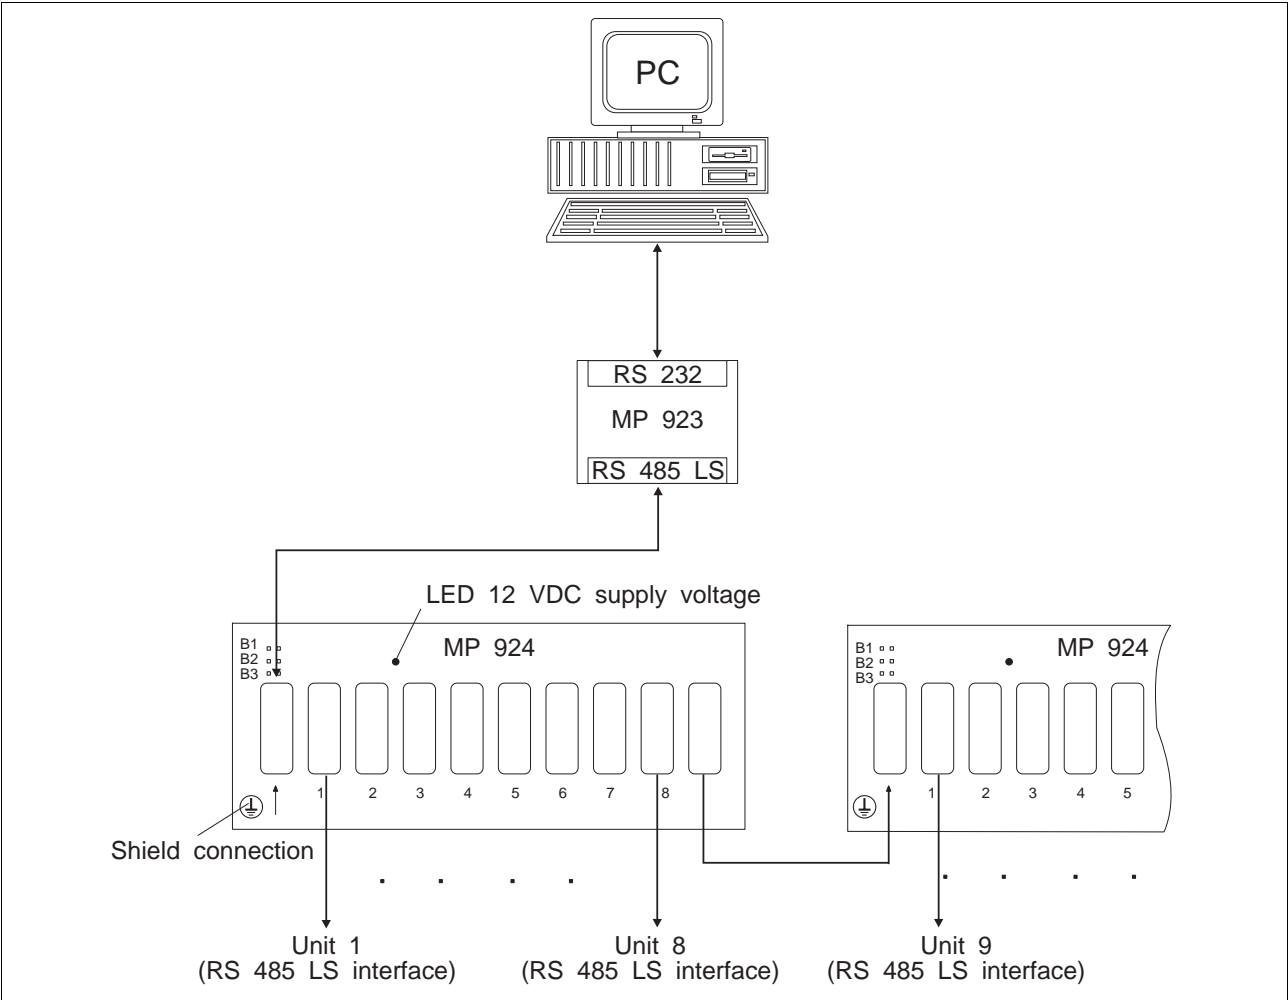

Fig. 6-8 MP 924 interface distributor cabling
2. If several MP 924 interface distributors are used, combine them as illustrated in fig. 6-8.